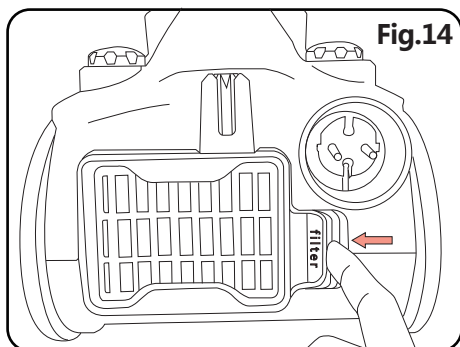

Fig.14
(1) As in fig.14, press the outlet lock to open the outlet board.